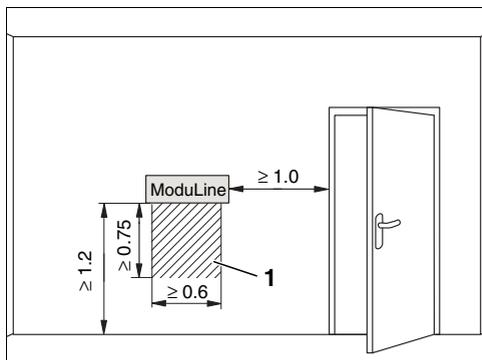

Fig. 15 Installation location in the living room (dimensions in m)
- Attach the thermostat to an interior wall of the reference room (Fig. 15).
- Ensure sufficient free space around the thermostat (Fig. 15, pos. 1).